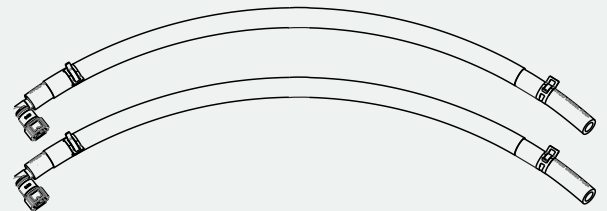
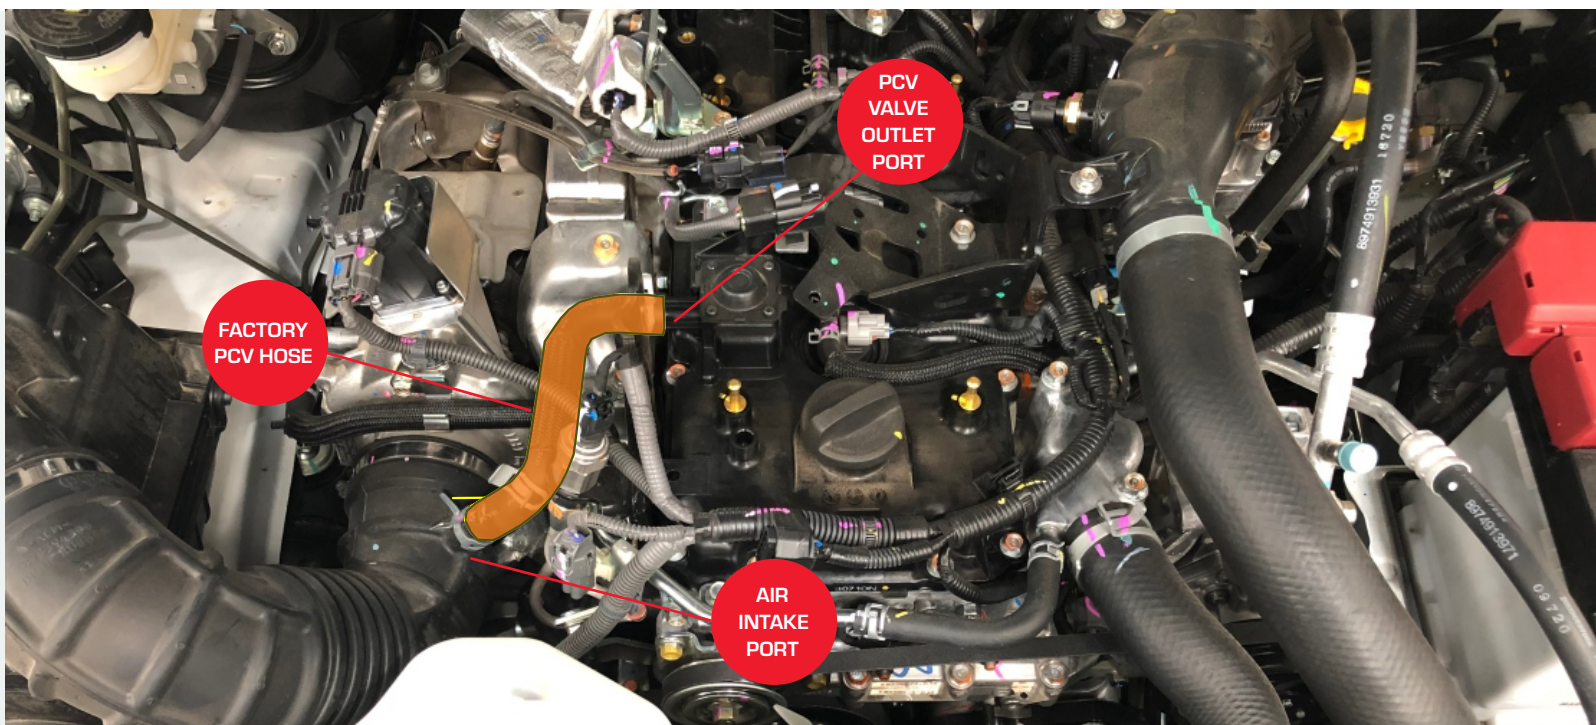

FIGURE 3
FIGURE 10
- 4 Install two of supplied elbow connectors MS4097 onto one end of both supplied fuel hoses and install four supplied fuel hose clamps onto both ends of fuel hoses, as per Fig. 3. Do not tighten fuel hose clamps yet.
- 2 Remove the engine cover. Locate the engine PCV valve outlet port at the front of the engine (see Fig. 3). Remove the factory PCV hose (coloured orange in Fig. 10).